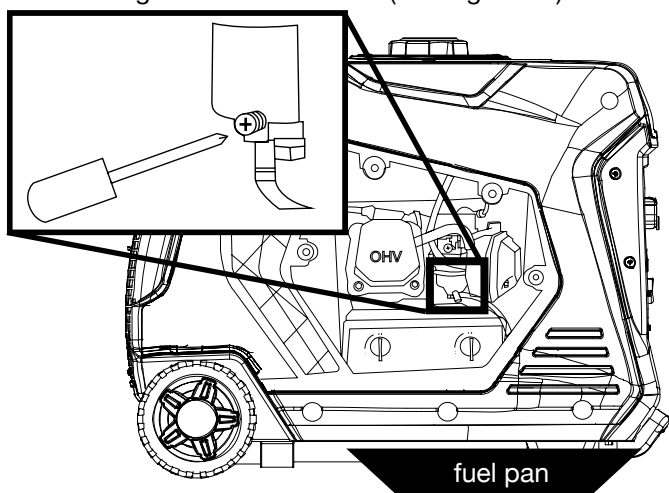

Figure 15: Loosen float bowl screw
3. Loosen the float bowl drain screw until fuel is seen draining from the float bowl (see Figure 15).